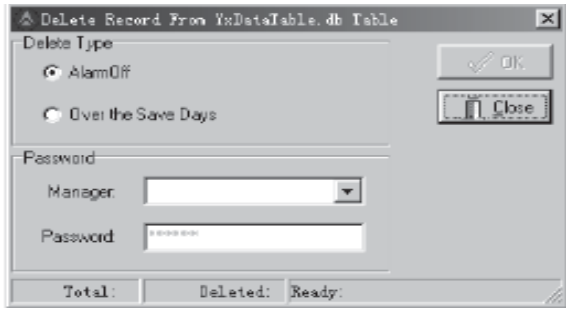

Fig. 7-6 Records Deleting Dialogue Block
(3) Delete the Records of Alarm Off or Over the Save Days: Click the button $i_1 \text{ Delete } j_1$, and the dialogue block as in Fig. 7-6 will be displayed in the interface.